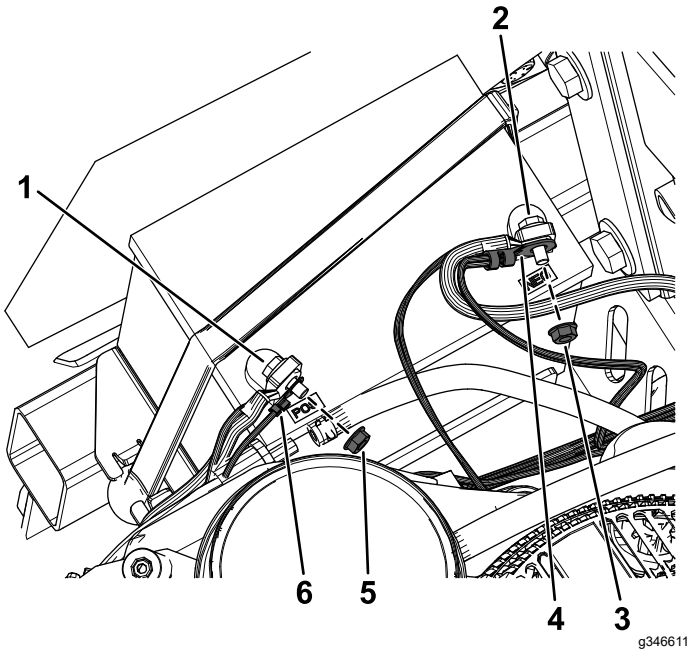

Figure 17
5. Remove the nut from the positive battery terminal and install the kit wire harness positive terminal ring onto the bolt (Figure 17).
6. Secure the positive terminal ring using the previously removed nut (Figure 17).
8. Remove the nut from the negative battery terminal and install the kit wire harness negative terminal ring onto the bolt (Figure 17).
9. Secure the negative terminal ring using the previously removed nut (Figure 17).